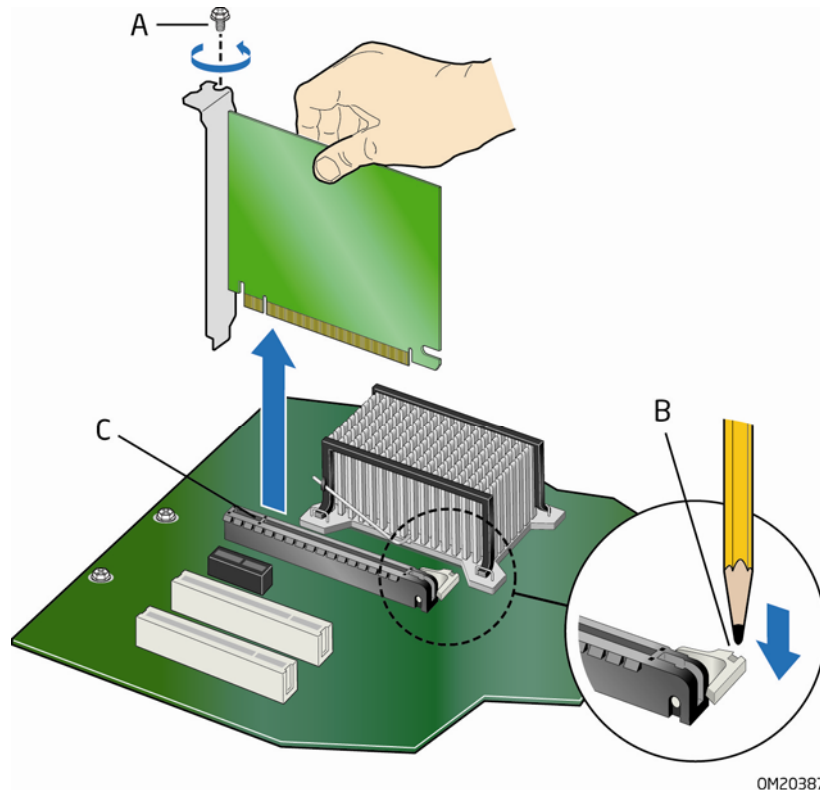

Figure 17. Removing a PCI Express x16 Card
2. Remove the screw (Figure 17, A) that secures the card's metal bracket to the chassis back panel.
3. Push the card ejector lever down using the tip of a pencil or similar tool in the notch (Figure 17, B). This will release the card from the connector (Figure 17, C).